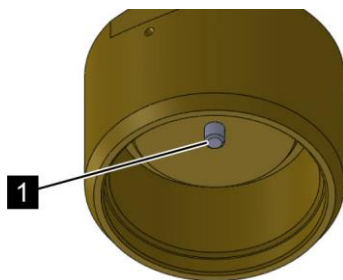

Fig. 171: Release pin
5. ➔ Check whether the release pin (Fig. 171/1) protrudes on the release device. Target dimensions: $8.1 +0.65/-0.55 \text{ mm}$ ($0.319 +0.026/-0.022 \text{ inches}$).